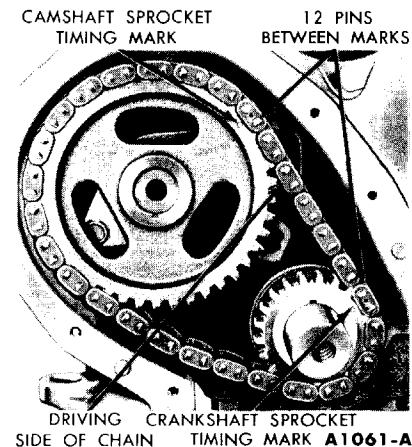

FIG. 20—Aligning Timing Marks
6. Remove the crankshaft front oil slinger. Crank the engine until the timing marks on the sprockets and chain are positioned as shown in Fig. 20.
2. Position the sprockets and timing chain on the camshaft and crankshaft. Be sure the timing marks on the sprockets and chain are positioned as shown in Fig. 20. Install the camshaft sprocket cap screw and washer.
4. Position the sprockets and timing chain on the camshaft and crankshaft. Align the timing marks on the timing chain and sprockets as shown in Fig. 20. Install the camshaft sprocket cap screw and washer. Install the crankshaft front oil slinger.